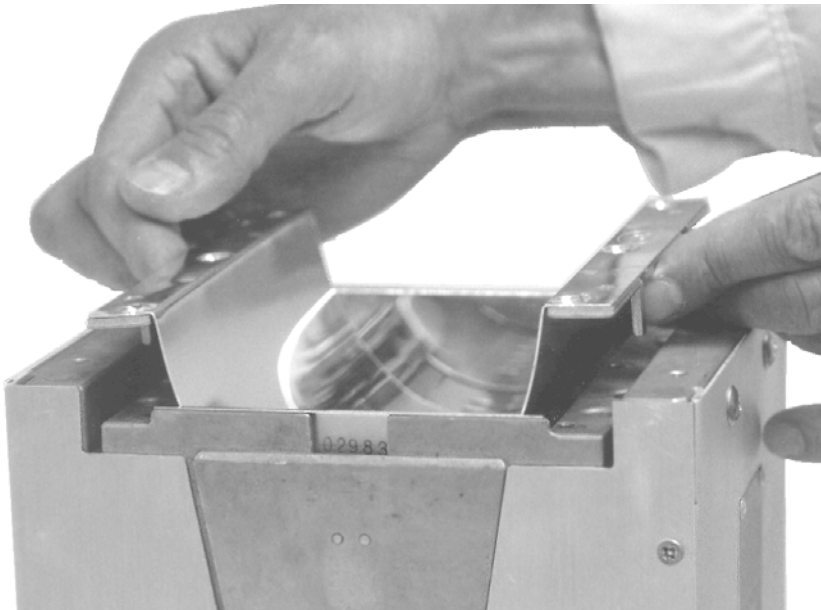
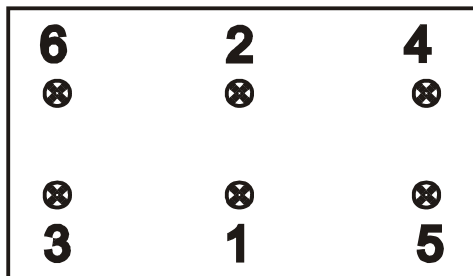

Figure 23. Reflector Removal or Replacement (I300M)
Figure 24. Reflector Screw Tightening Sequence
- Referring to Figure 23, remove and discard the two end reflectors and the gaskets underneath. If evidence of arcing is present, clean the gasket grooves with emery cloth to remove all oxide.
7. Align the reflector squarely over the opening. With gentle pressure and a rocking motion, slide the reflector down in place. It should not bind against the end reflectors as it goes into place. As a final motion, grasp the sides of the reflector and gently force them together a small amount, then settle the reflector down over the mounting surfaces (Figure 23). Start the six flat head screws in the reflector but do not tighten. Tighten the six screws in the sequence 1-6 as shown in Figure 24 to a snug position; finally tighten to 3.4 N-m (30 inch-lbs.) using a torque controlled screwdriver. Repeat tightening the screws as illustrated and at the specified torque.